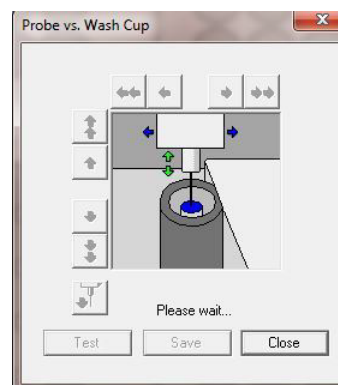

Figure 3.4.1-8 Align Probe to the Wash Cup
1. Choose Exposure Calibration from the menu. (Figure 3.4.1-1)